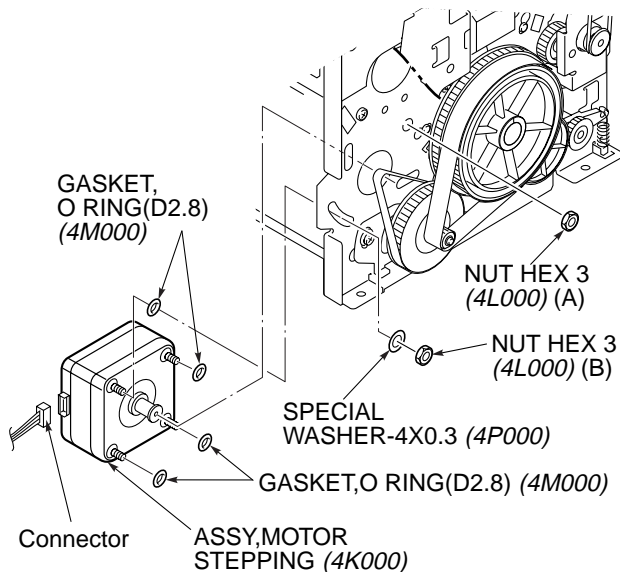

Fig. 3-6-1
(See Figs. 3-6-1 to 3-6-3)
- 1) Disconnect the connector on the "ASSY, MOTOR STEPPING (4K000)". (Refer to Fig. 3-6-1.)
- 2) Remove the two "NUT HEX 3 (4L000)" ((A) and (B)) and remove the "ASSY, MOTOR STEPPING (4K000)". (Refer to Fig. 3-6-1.)